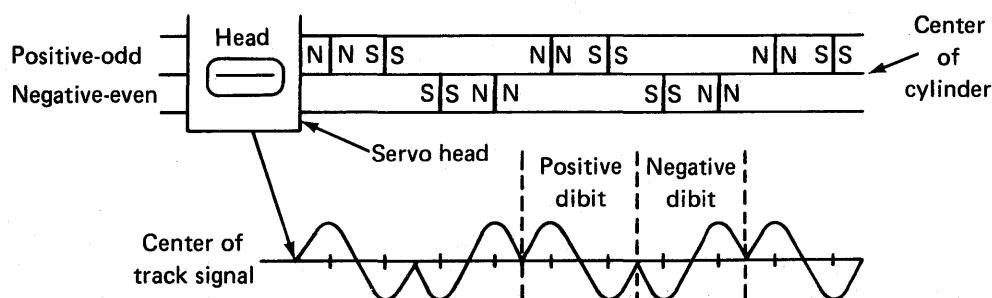

Figure 47. Center of track dibit waveform
15. The dibit patterns are recorded in side-by-side tracks on the servo disk surface. In the area of the data tracks (between the outer and inner guard bands), they alternate between positive and negative patterns as shown at the top of figure 47. (Note that the positive is also called odd and the negative is also called even.) The waveshape at the bottom of figure 47 shows how the signal would appear if the servo head is directly between a positive and a negative dibit track. Both tracks would be inducing a voltage of equal amplitude when the head is positioned midway between them. By having the dipoles offset between adjacent tracks, the waveshape would have a positive dibit signal, followed immediately by a negative, and so on. When the head is directly in the center between the two patterns, the dibit waveshape would be balanced as it is in figure 47. A later frame explains an out of balance waveshape. The waveshape shown in figure 47 is used as the timing for the basic 806 Khz clock.